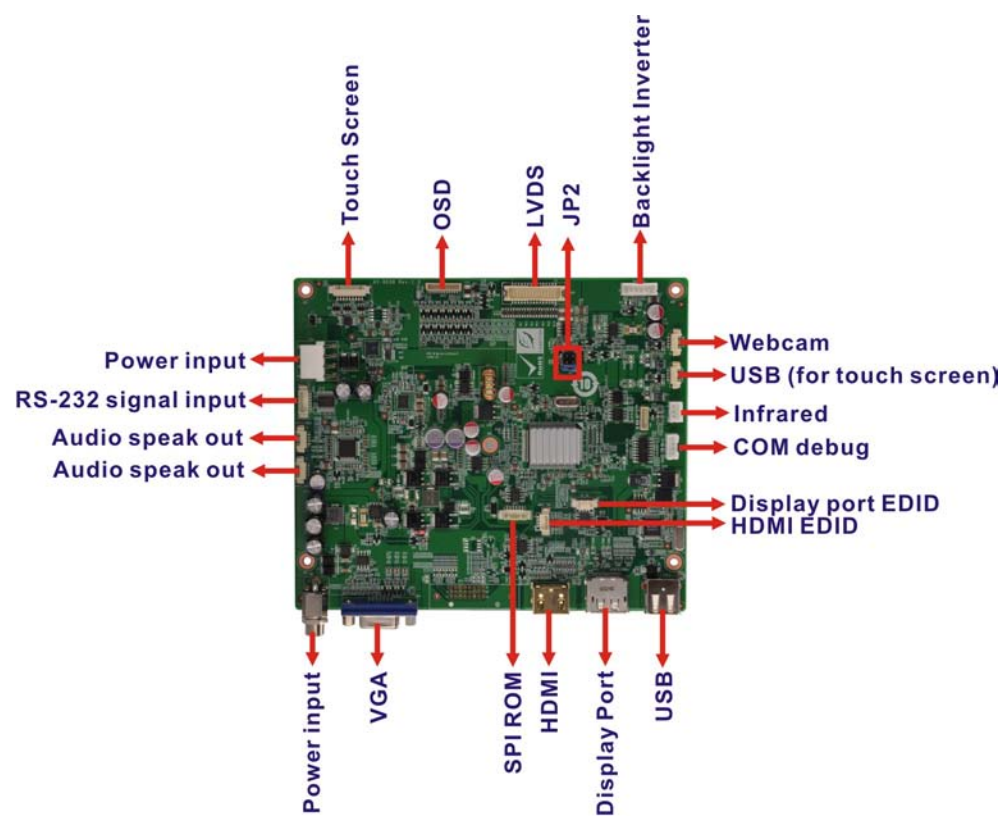

Figure 3-1: AV-6038 AD Board Overview
- Step 3:** Locate the voltage select jumper. (See **Figure 3-1**)